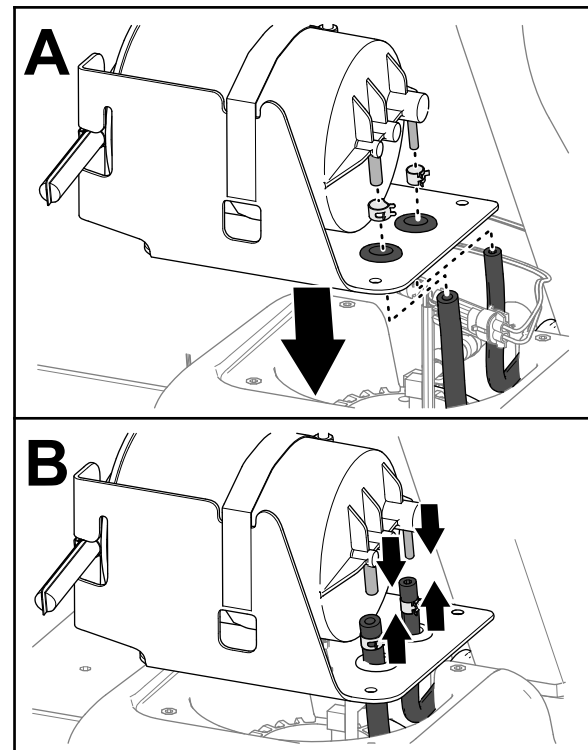

Figure 91
1. Align the fuel tank hoses through the grommets of the carbon-canister bracket (Figure 91).
2. Assemble the hose clamps over the hoses (Figure 91).
3. Assemble the hoses onto the fittings of the carbon canister (Figure 91).